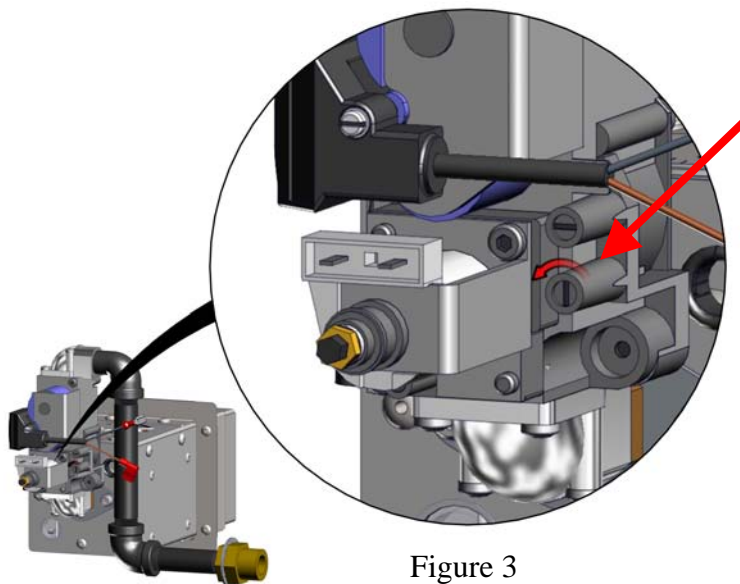

Figure 3
- Loosen screw 1 full turn counter-clockwise (Figure 3)